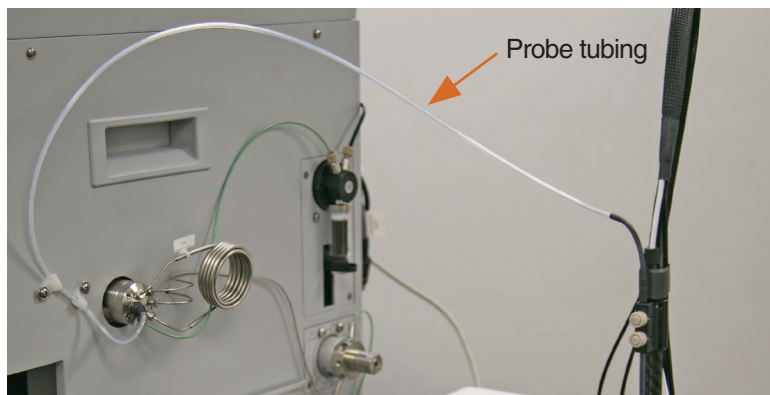

Figure 2-26 Probe tubing affixed to the side of the ACCQPrep
3. The tubing bracket should be affixed to the ACCQPrep so that the probe tubing threads vertically through the bracket. This ensures that the probe tubing will not be obstructed by the other end of the probe attachment (Figure 2-26).